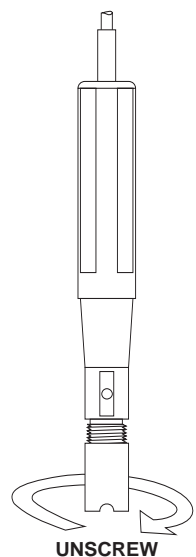

fig. 2
- Unscrew the membrane by turning it counter-clock-wise (see fig. 2)